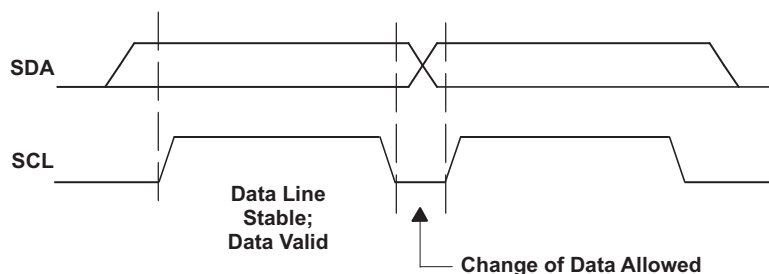
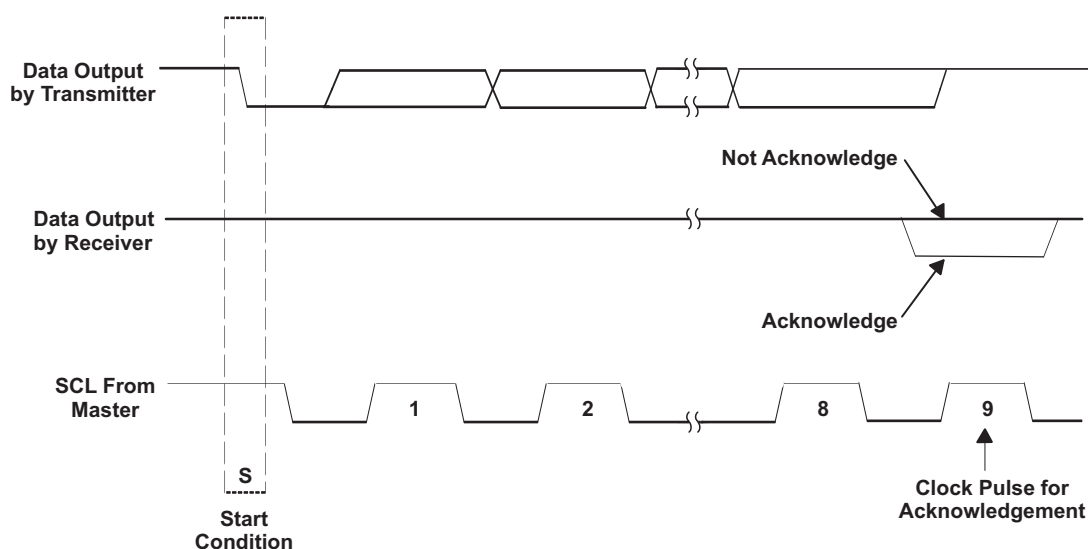

Figure 10. I²C Bit Transfer
Figure 11. I²C Acknowledge
- The master then generates the SCL pulses and transmits the 7-bit address and the *read/writedirection bit* R/W on the SDA line. During all transmissions, the master ensures that data is *valid*. A *valid data* condition requires the SDA line to be stable during the entire high period of the clock pulse (see Figure 10). All devices recognize the address sent by the master and compare it to their internal fixed addresses. Only the slave device with a matching address generates an *acknowledge* (see Figure 11) by pulling the SDA line low during the entire high period of the ninth SCL cycle. On detecting this acknowledge, the master knows that a communication link with a slave has been established.